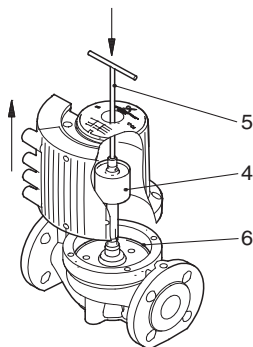

Fig. 2 Changing the control box position
2. Lift off the stator housing (3). Keep the rotor (4) in place using a suitable tool, e.g. a T-key (M8) (5), see fig. 2.
3. Check that the O-ring (6) is intact. A defective O-ring must be replaced.
4. Hold the stator housing/control box (3) in the desired position.